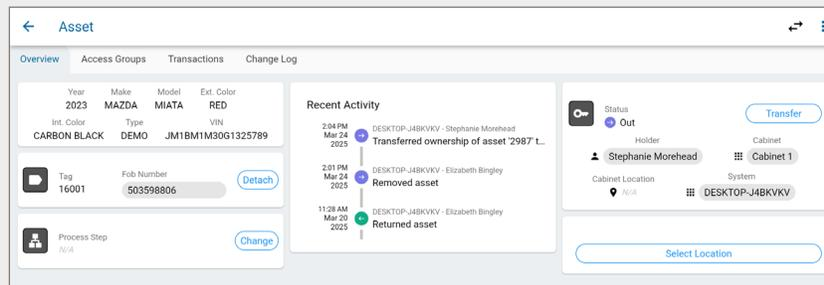

Fig. 42 – Asset details screen displayed by using the fob reader
- 🔑 The Asset Name and other details display identifying the fob in your possession, as shown in Fig. 42.